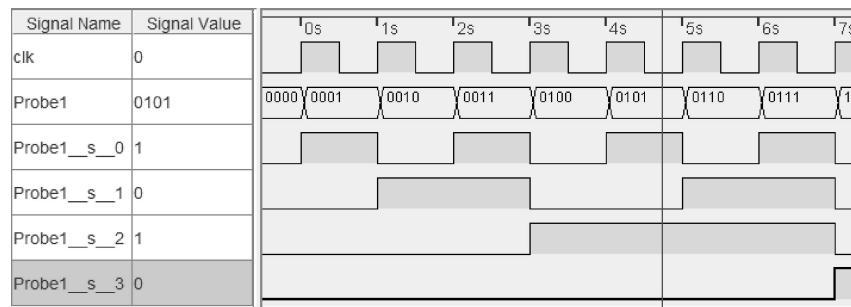

Figure 6.7: Timing Diagram for Up Counter
Logisim-Evolution can generate a timing diagram, called a *chronogram*, for a sequential circuit. That is a representation of the various signals in a circuit and how those signals change over time. Figure 6.7 is the timing diagram for an *Up* counter.
At the top of Figure 6.7 is a scale that indicates the number of seconds that the counter has been operating. The first trace is the input `clk` signal. The clock goes high at the start of each second and then goes low at the half-second mark. Under the clock is the “Probe1” signal. Because that is a four-bit number *Logisim-Evolution* displays the number, but under that number is a breakout of the four bits that make up that number. Thus, at time zero “Probe1” is 0001 and “Probe1_s_0” (that stands for “Probe 1, Signal 0”) is high while the other bits are low. The *Logisim-Evolution* chronogram includes a cursor indicated by a red line (found just before the five second tick in Figure 6.7) that can be placed anywhere along the diagram. The cursor sets the values of each signal in the area on the left edge of the diagram, so the cursor in Figure 6.7 is pointing to a spot where the `clk` is low, `Probe1` is at 0101, and so forth.
3. Set SIMULATE -> TICK FREQUENCY to 4 Hertz. This will simulate a clock that ticks once per second, as in Figure 6.7. While the